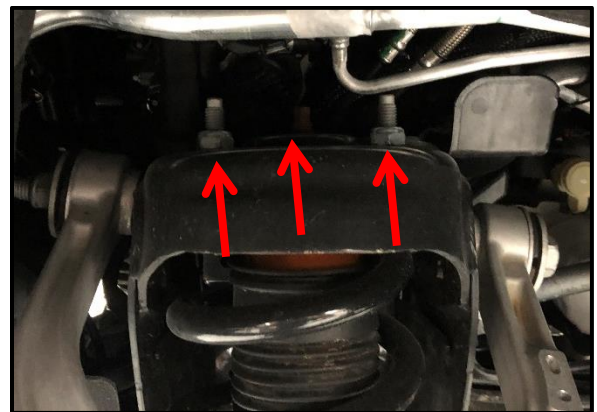

Figure 5
6. Remove (x3) upper strut nuts using a 15mm wrench (**Figure 5**).